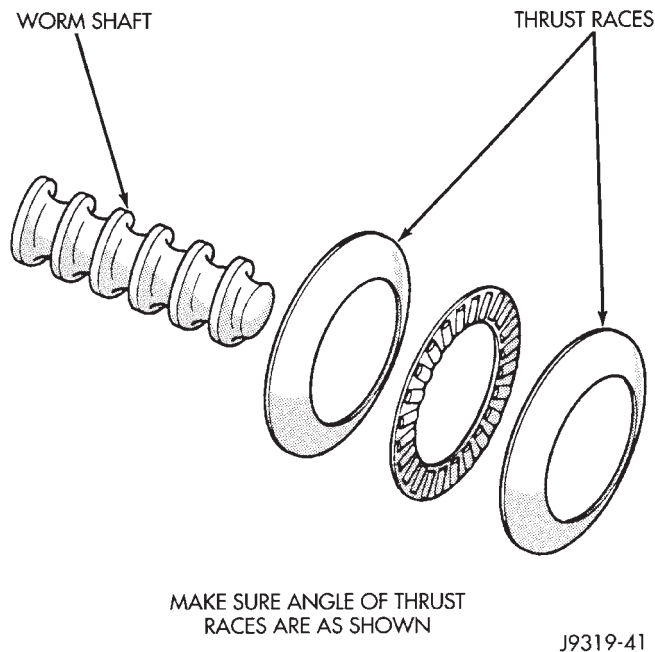

Fig. 34 Worm Shaft and Bearing
(7) Install the races and thrust bearing to worm shaft (Fig. 34).